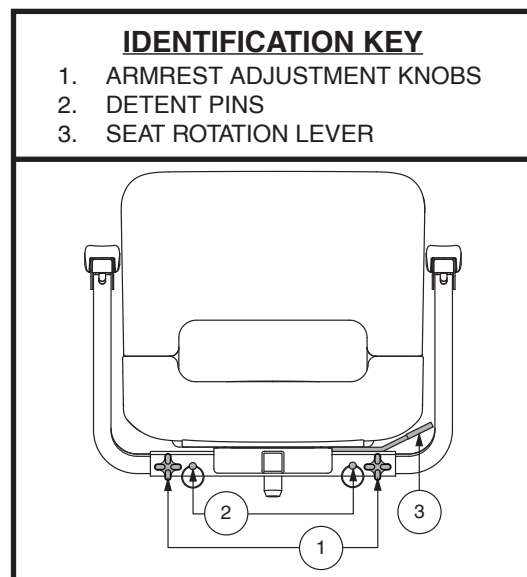

Figure 21. Seat Adjustments – Style A
1. Loosen the armrest adjustment knobs. See figure 21.
1. Depending on your seat type, either pull upward or push forward on the seat rotation lever to disengage the seat. See figure 21 or 22.